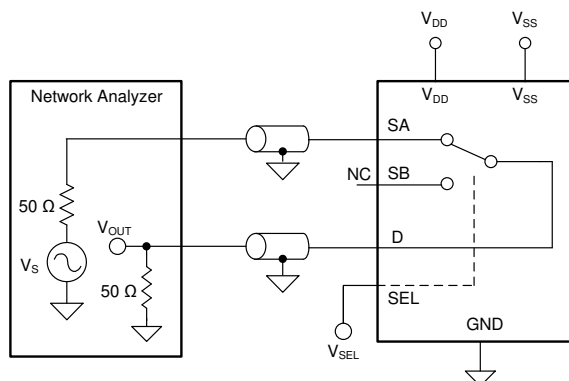

Figure 6-10. Bandwidth Measurement Setup
Bandwidth is defined as the range of frequencies that are attenuated by < 3dB when the input is applied to the source pin (Sx) of an on-channel, and the output is measured at the drain pin (D) of the TMUX6136. Figure 6-10 shows the setup used to measure bandwidth of the mux. Use Equation 4 to compute the attenuation.